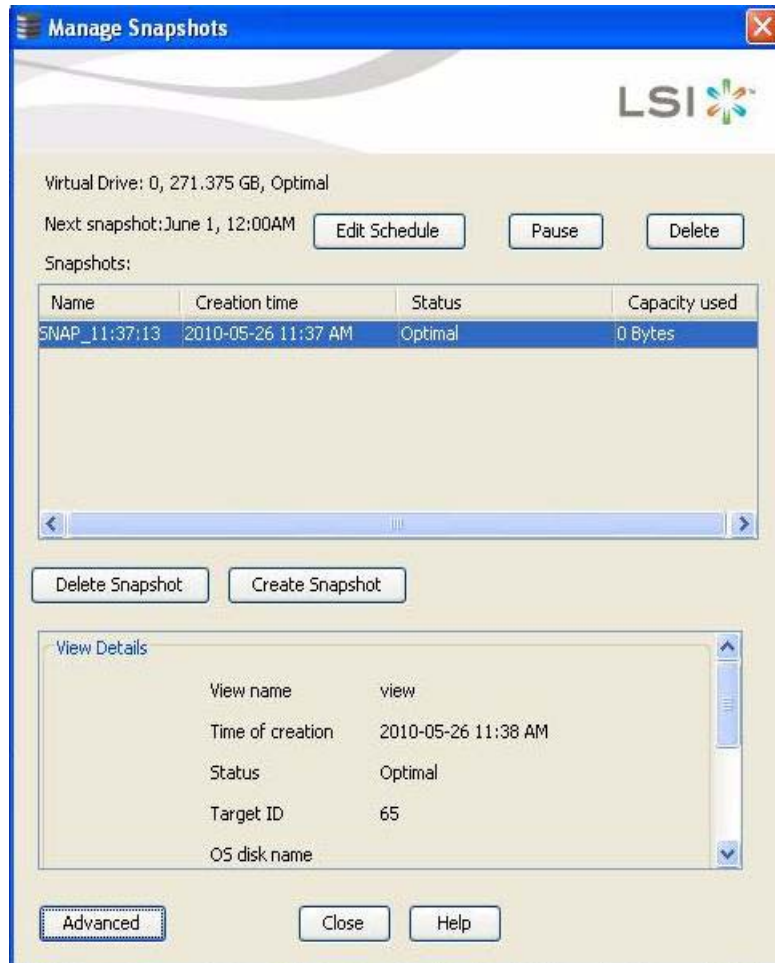

Figure 293: Manage Snapshots Dialog
1. Click the **Edit Schedule** button in the Manage Snapshots wizard in Figure 293, if you want to edit the snapshot schedule.
1. Click **Advanced** in the Manage Snapshots wizard as shown in Figure 293.
1. Click **Create View** button in the Manage Snapshots wizard, as shown in Figure 293.